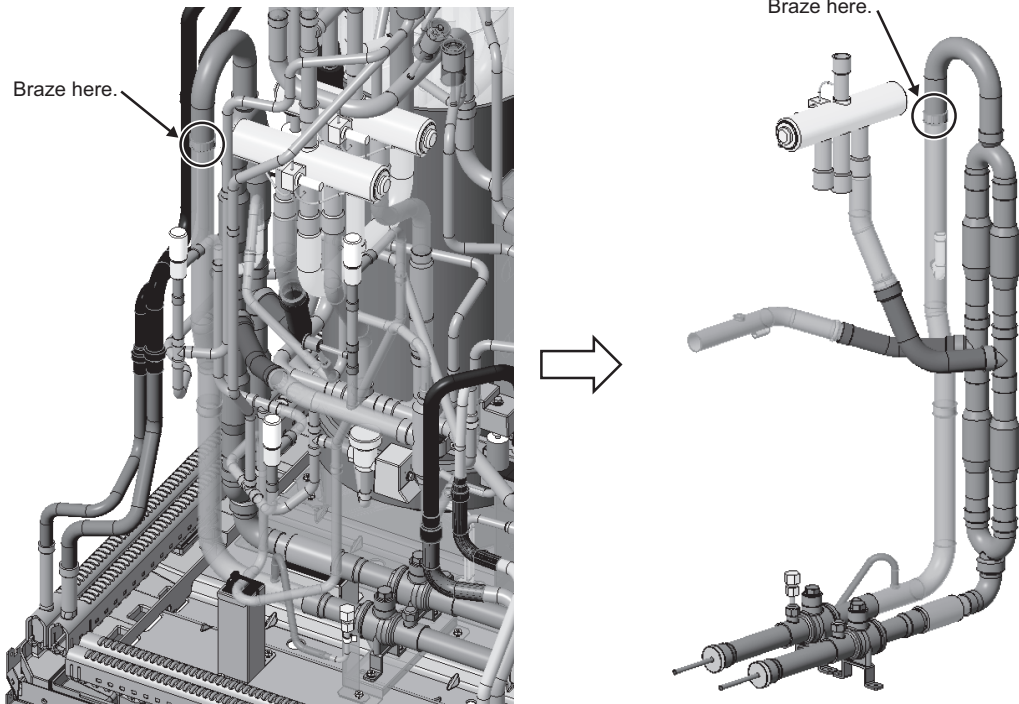

Fig. 8
(8) Braze the area shown in the figure below. (One area: Fig. 8)